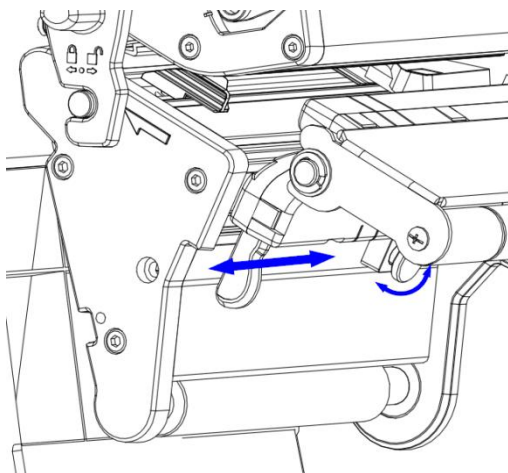

Fig. 3.2.1
- 1) Counter-clockwise rotates the thumb knob to loosen the sensor position limitation block (refer to the curved arrow in Fig. 3.2.1);
- 3) Pull the sensor spanner and move the sensor to the required position(refer to the arrow direction in Fig. 3.2.1);